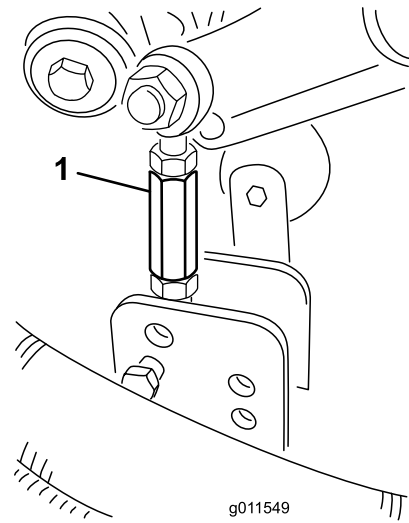

Figure 25
- Remove the hairpin cottes and clevis pins securing the damper links to the mower-deck brackets (Figure 25).